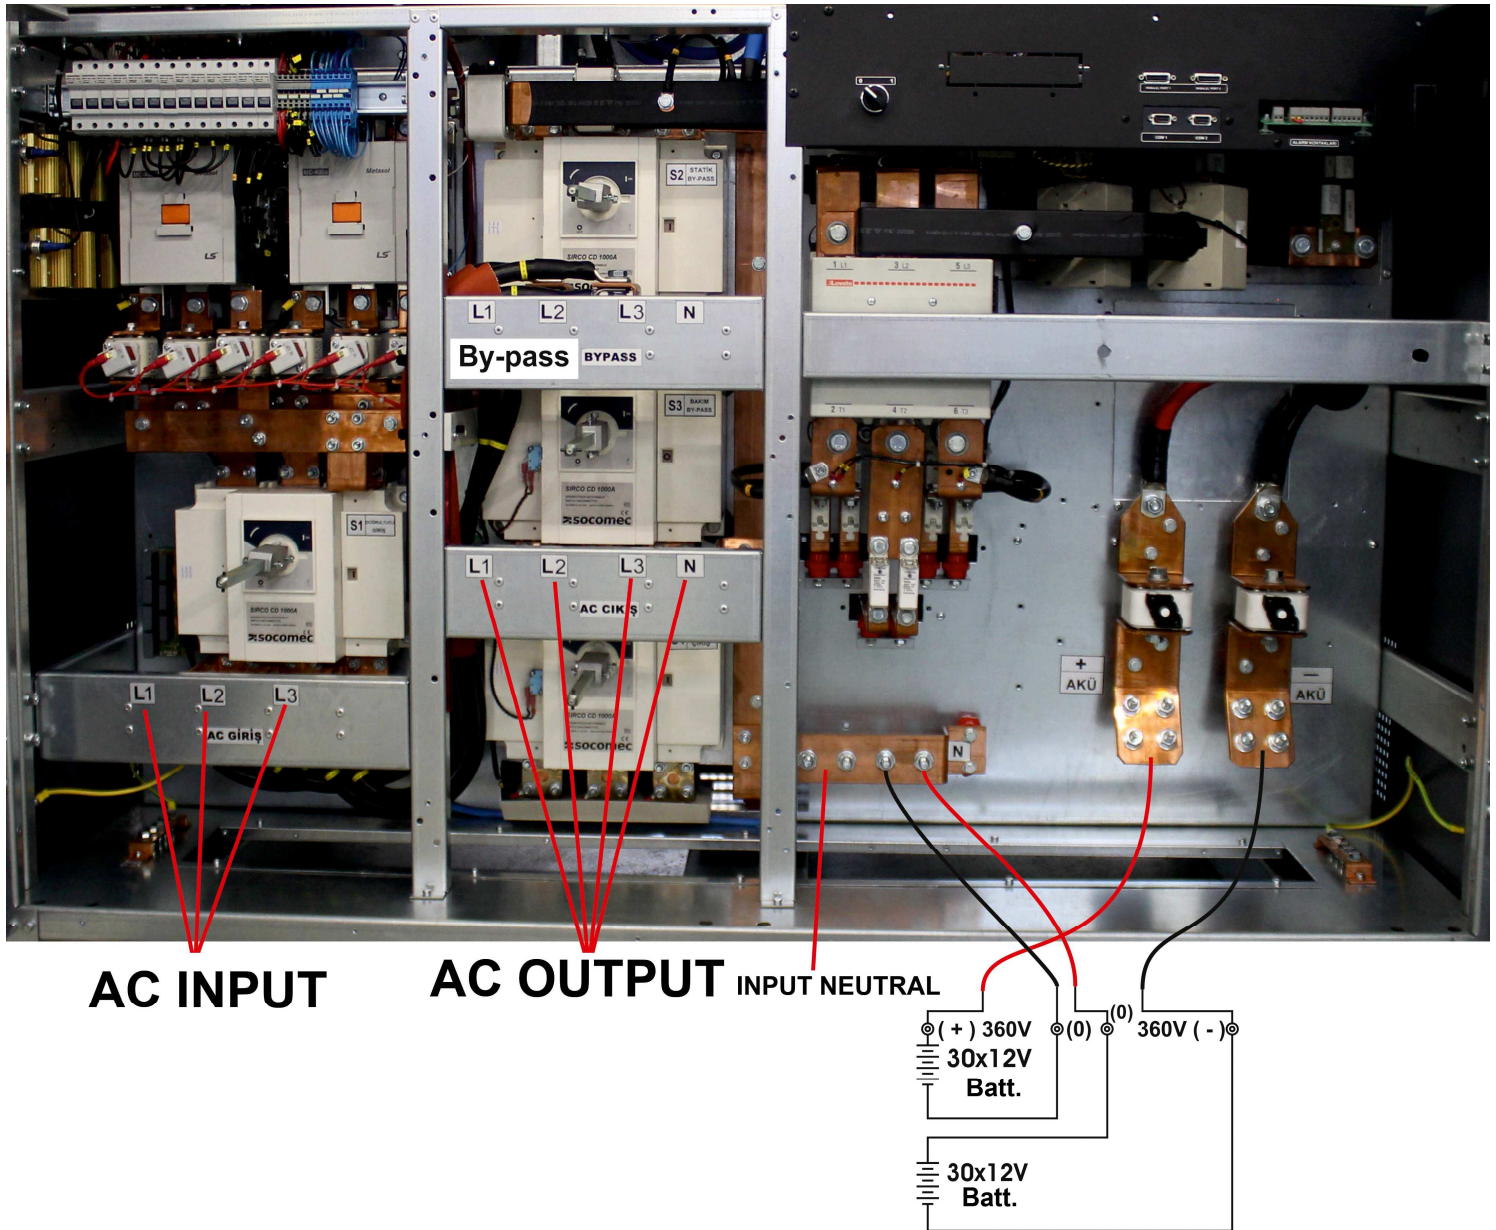

Figure 2.2 550-600-650-800 kVA POWER Cable Connection
Descriptions of the UPS input output cable connection terminals are shown in figure 2.2
2. Connect the 3 phase AC input coming from the mains distribution panel to the AC input terminals as shown on the label. (Figure 2.2)